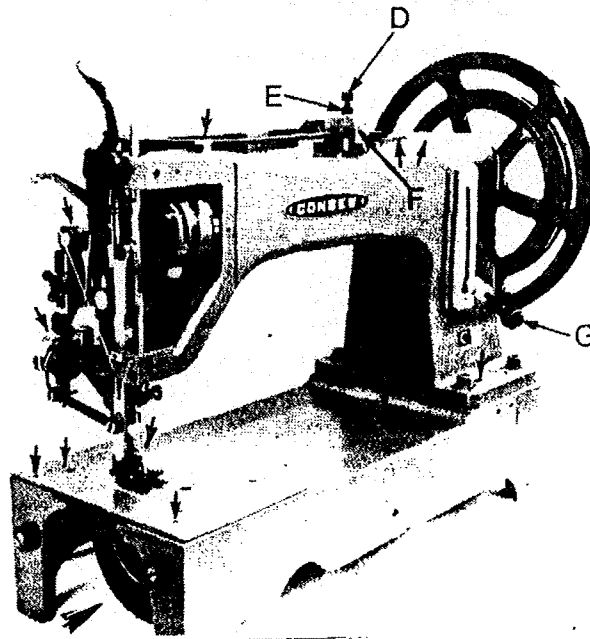

Fig. 10 Oiling Points at Front of Machine
- a. Oiling points are shown in Figures 10 and 11.
The length of stitch is regulated by loosening the serrated nut on the reverse lever G Fig. 10 in the slot on the front of the upright part of the arm. To lengthen the stitch, move the lever downward. To shorten the stitch, move the lever upward and then tighten the nut.
The pressure on the material is regulated by means of the hexagon head screw D, Fig. 10. Loosen the hexagon lock nut, E, Fig. 10 and turn the screw 1) to the right to increase the pressure or to the left to decrease the pressure. When the desired pressure has been obtained, hold the screw D with a wrench to keep it from turning while the lock nut (E) is being tightened against the bracket (F).
To insure easy running and prevent unnecessary wear of the machine, oil all parts which are in movable contact. When the machine is in continuous use, oil should be applied frequently. The places where the machine should be oiled are indicated in Figs. 10 and 11 by arrows pointing to the oil holes and bearings. **Important Note:** The oil holes on the machine are indicated by a red circle around the oil hole. Oil should be regularly applied to the shuttle race.